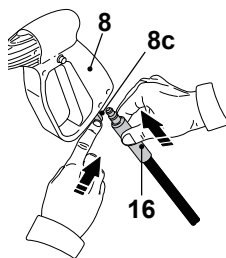

Fig. 5
1. Push the latch (8c) on the spray gun (8) to open the connecting port and insert the connector of the high pressure hose (16) (Fig. 5).
2. Release the latch (8c) to lock the hose (16) in place. Check the connection by pulling on the hose. It should not pull out.